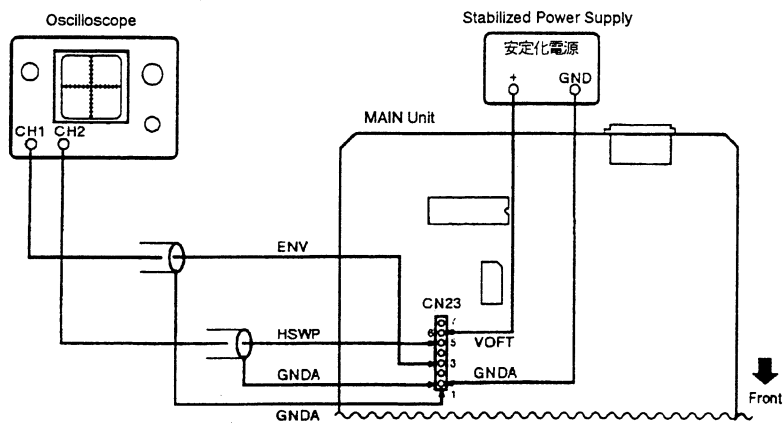

Fig. 3-3
1. Connect the oscilloscope's CH1 between CN23-3 (ENV) on the MAIN unit and CN23-1 (GND A), and connect the oscilloscope's CH2 between CN23-5 (HSWP) and CN23-1 (GND A). (Refer to Fig. 3-3)
1. オシロスコープのCH1をMAINユニットのCN23-3(ENV)とCN23-1(GND A)間に、CH2をCN23-5(HSWP)とCN23-1(GND A)間に接続する。(図3-3参照)
- 1). Connect the oscilloscope's CH1 between CN23-3 (ENV) on the MAIN unit and CN23-1 (GND A), and connect the oscilloscope's CH2 between CN23-5 (HSWP) and CN23-1 (GND A). (Refer to Fig. 3-3)
- 1). オシロスコープのCH1をMAINユニットのCN23-3(ENV)とCN23-1(GND A)間に、CH2をCN23-5(HSWP)とCN23-1(GND A)間に接続する。(図3-3参照)